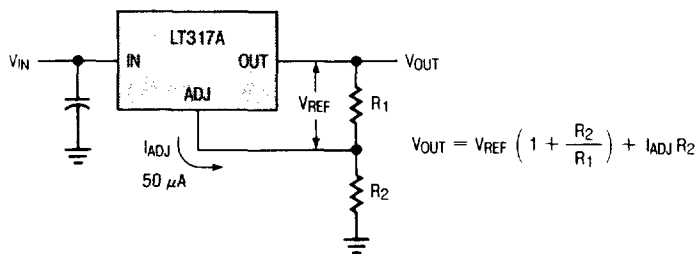

Figure 1
**General:** The LT117A develops a 1.25V reference voltage between the output and the adjustable terminal (see Figure 1). By placing a resistor,  $R_1$ , between these two terminals, a constant current is caused to flow through  $R_1$  and down through  $R_2$  to set the overall output voltage. Normally this current is the specified minimum load current of 5mA or 10mA.